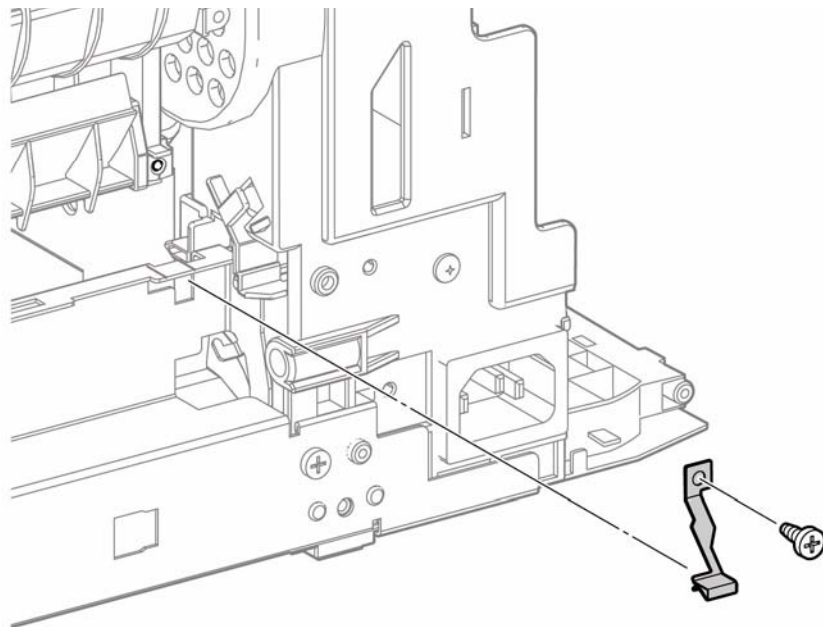

Figure 1 Remove the Ground Strap
4. Refer to Figure 1 to locate and remove 1 screw (silver, tapping, 8mm) that secures the ground plate.